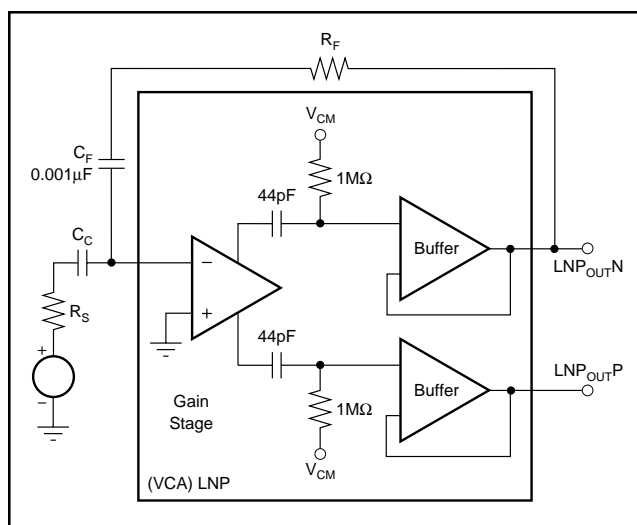

FIGURE 8. Low Frequency LNP Time Constants.
When employing active feedback, the user should be careful to avoid low-frequency instability or overload problems. Figure 8 illustrates the various low-frequency time constants. Referring again to the input resistance calculation of Equation (3), and considering that the gain term A falls off below 3.6kHz, it is evident that the effective LNP input impedance will rise below 3.6kHz, with a DC limit of approximately R_F . To avoid interaction with the feedback pole/zero at low frequencies, and to avoid the higher signal levels resulting from the rising impedance characteristic, it is recommended that the external $R_F C_C$ time constant be set to about 5μs.